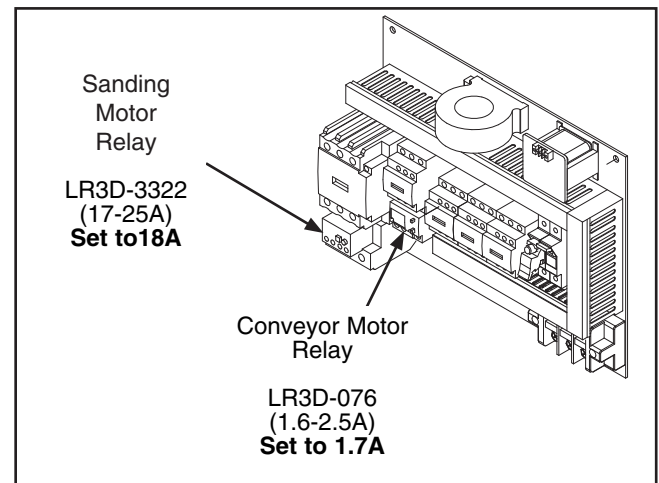

Figure 6. 440V thermal overload relays.
4. Swap out the sanding motor relay LR3D-3355 and conveyor motor relay LR3D-086 with the 440V thermal relays at the locations shown in **Figure 6**, and set them to 18A and 1.7A respectively.